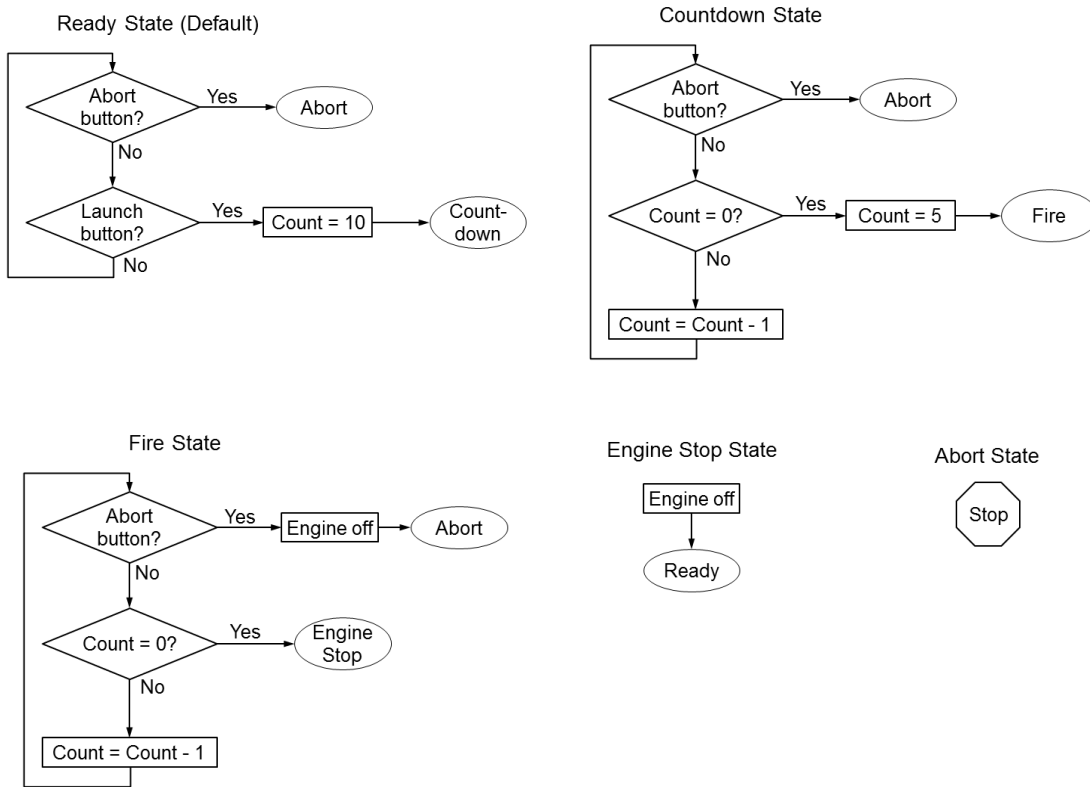

FIGURE 2.2 Flow diagrams for each of the five states in our rocket launching state machine.
Having drawn our state diagram, we can proceed to making flow diagrams. You need one for every state, so Fig. 2.2 has five separate ones. If the actions within a state are really complex, you might not be able to fit everything on one page (PowerPoint slide), but if that is really the case, maybe you should divide the action of that state into two or more states. The simpler a given state is, the easier it will be to debug.
As an example of how to read these diagrams, consider the Ready State in Fig. 2.2. When the code that makes up the state starts executing, the first thing that happens is a check to see if the Abort button has been pressed. If it has, then we immediately transition to the Abort state. If not, then we check to see if the Launch button has been pressed. If it has, then we load the Count vari-
8. Refer back to Fig. 2.2. We need to convert the flow diagram for the Ready state into actual code. The first thing that happens is a True/False decision based on the Abort button. So draw a case structure *inside the Ready case*, and wire the Abort terminal to its selector. If you look at the flow diagram, you will see that everything that happens in this state is “under” this case, so it should pretty much fill the Ready case.